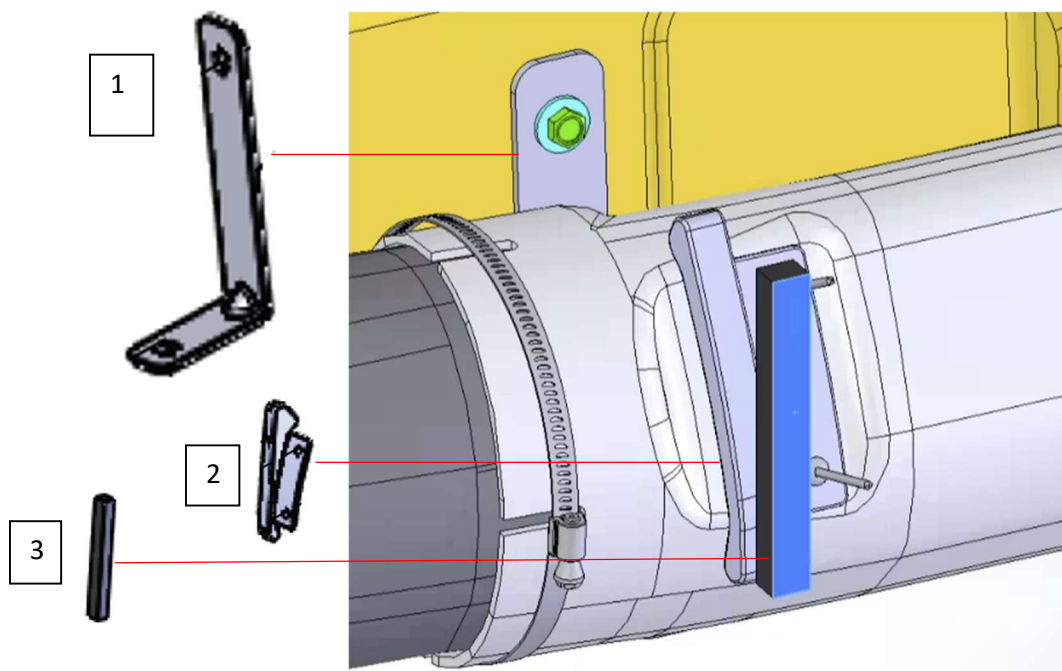

Figure 10
8. Install the provided connection tube bracket (1), fender reinforcement (2), and foam (3). (See fig. 10)